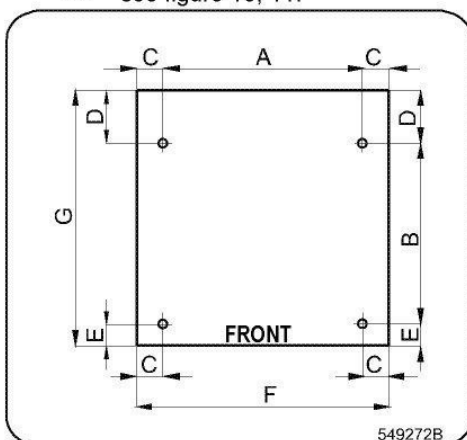

Figure 10 – Rigid-mount machines
- see figure 10, 11.
- The existing concrete floor must be at least 120mm / 4.72" thick. Dimensions for anchoring – see figures 10, 11 and table 22.